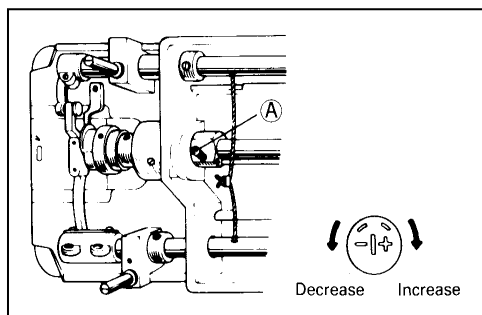

Fig.8
11、Adjustment of the hook lubrication (Fig.8):